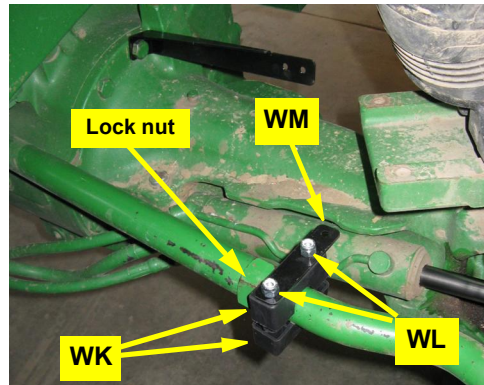

Figure 2b: Installed link clamp and bracket
- b. Use the provided hardware **WL** to install the clamp **WK** and rod mount **WM** to the tie rod next to the lock nut (Figure 2b).